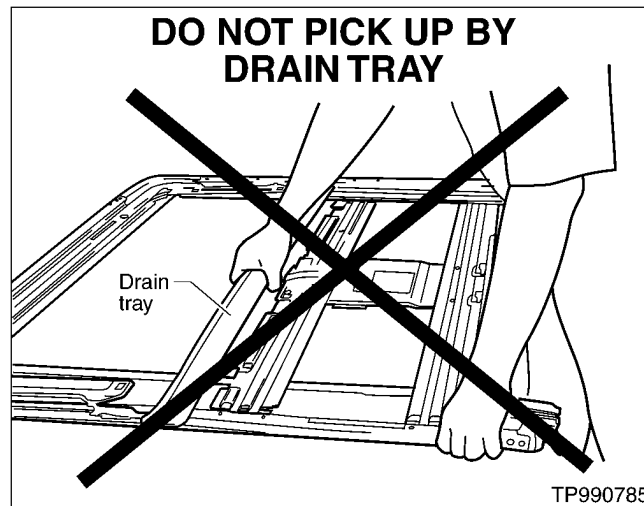

Figure 2
- Do not pick the sunroof rail assembly up by the drain tray as damage may occur to the drain tray (see Figure 2).